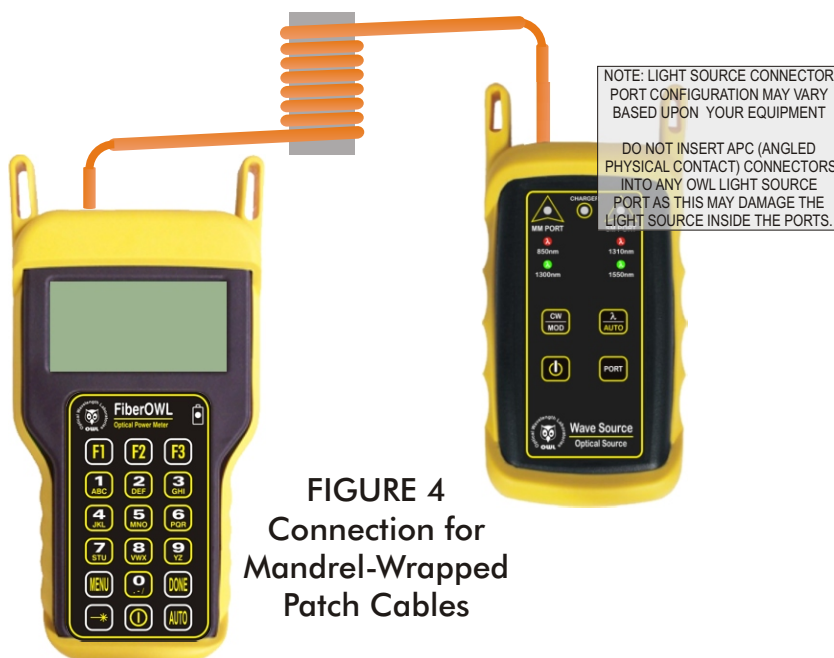

FIGURE 4
STEP 7 Connect the mandrel-wrapped patch cable between the Fiber OWL 4 and the WaveSource as shown in Figure 4.
STEP 22 Connect the detector port on the meter and 850nm light source (left-hand port) together with the mandrel-wrapped cable as shown in Figure 4 (on the reverse side of this page).